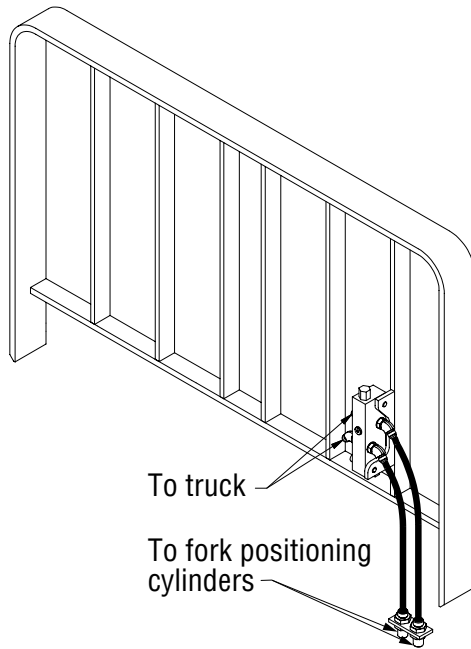

Figure 3-3, Fork Positioning Connection
3. Install the lines from the truck's hydraulics to the fork positioning valve on the attachment. (Figure 3-3)